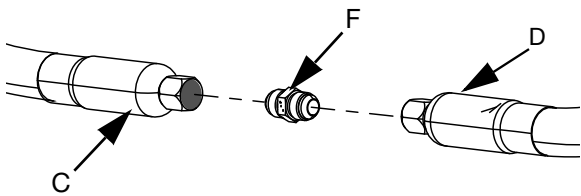

FIG. 21
- 6. If you are using two supply hoses (C and D), use the Supply Hose 1 to Supply Hose 2 Fitting (F) to connect Supply Hose 1 (C) to Supply Hose 2 (D). See FIG. 21.